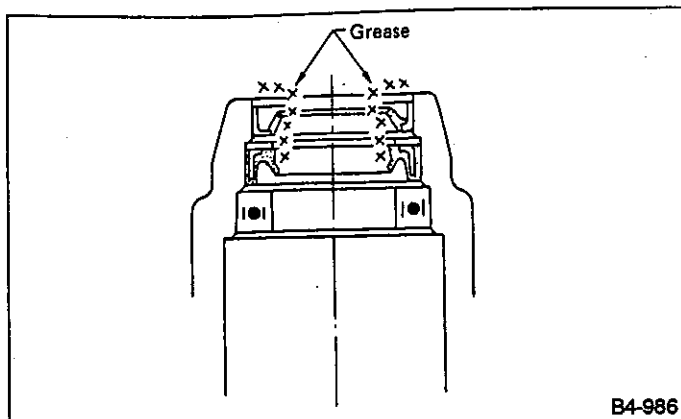

Fig. 92
(3) Using INSTALLER and press, install Y-packing and back-up washer in valve housing.
- Face Y-packing in the direction shown in Figure 92 when installing.